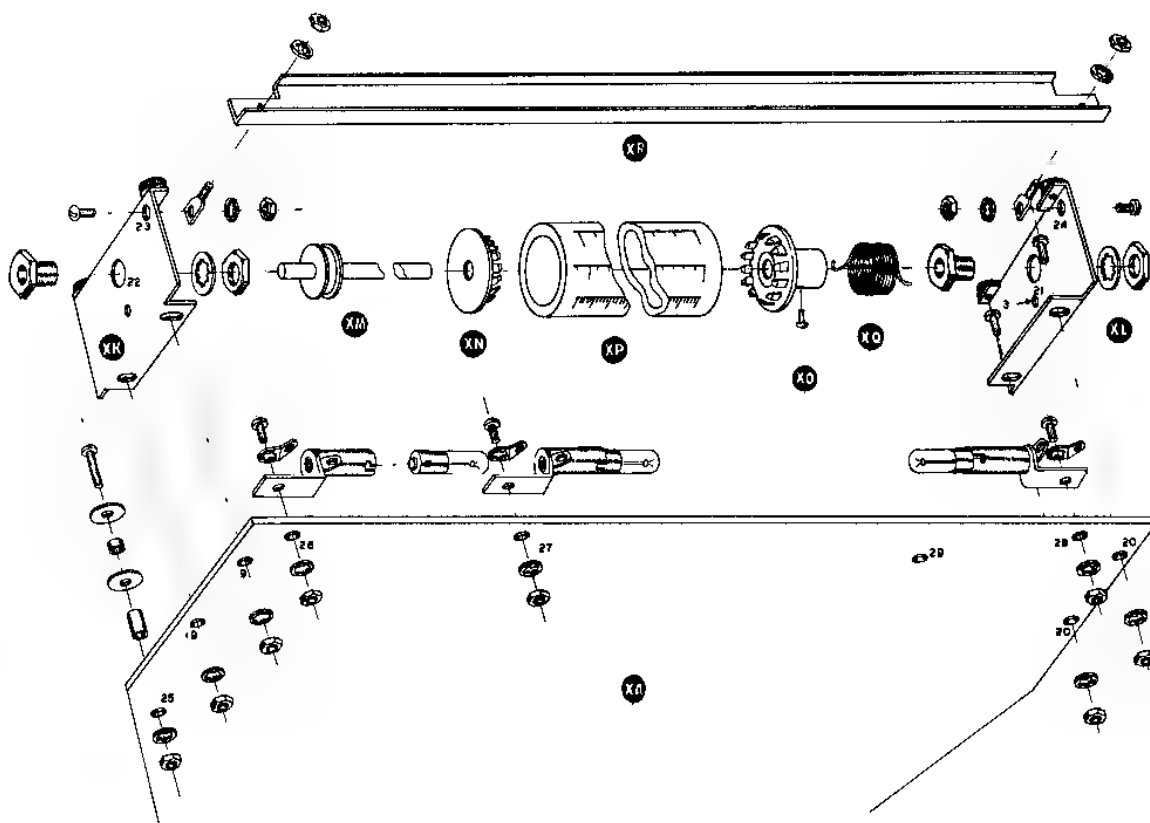

Figure 26
- () Referring to Figure 26, mount one of the two identical dial drum support brackets at hole location 20 at the upper left corner of the back plate XA when observing it in its reference position. This left hand bracket is now designated XL. Mount firmly, but not securely as yet, with a #6-32 x 3/8" RHMS in the top hole and a #6-32 x 3/4" RHMS in the bottom hole, using lockwashers under the nuts. Insert the screws from the bracket side.